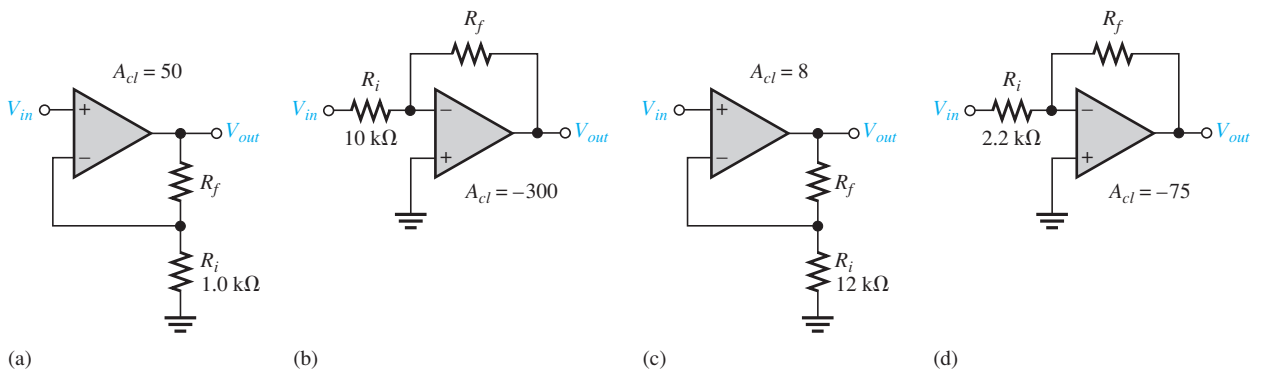

FIGURE 6-45
18. Find the value of R_f that will produce the indicated closed-loop gain in each amplifier in Figure 6-45.